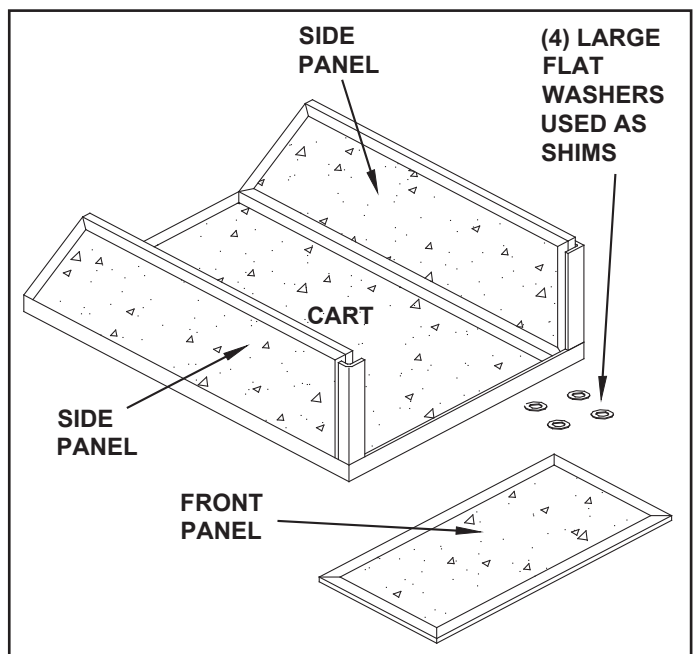

FIGURE 9
15. Lay the cart down on the floor so that the sides are up in a normal position. Remove the front panel by sliding it up, then remove the four large washers you used for shims. See figure 9.